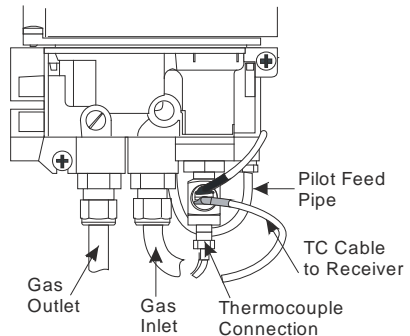

Figure 42
12. Pull out the TC cable (with red sleeve) from the interrupter block (see **Figure 42**).